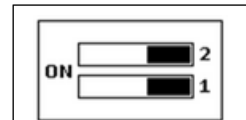

Fig. 5
- Set DIP 1 to off position as shown in Figure 5. Position of DIP 2 is irrelevant;